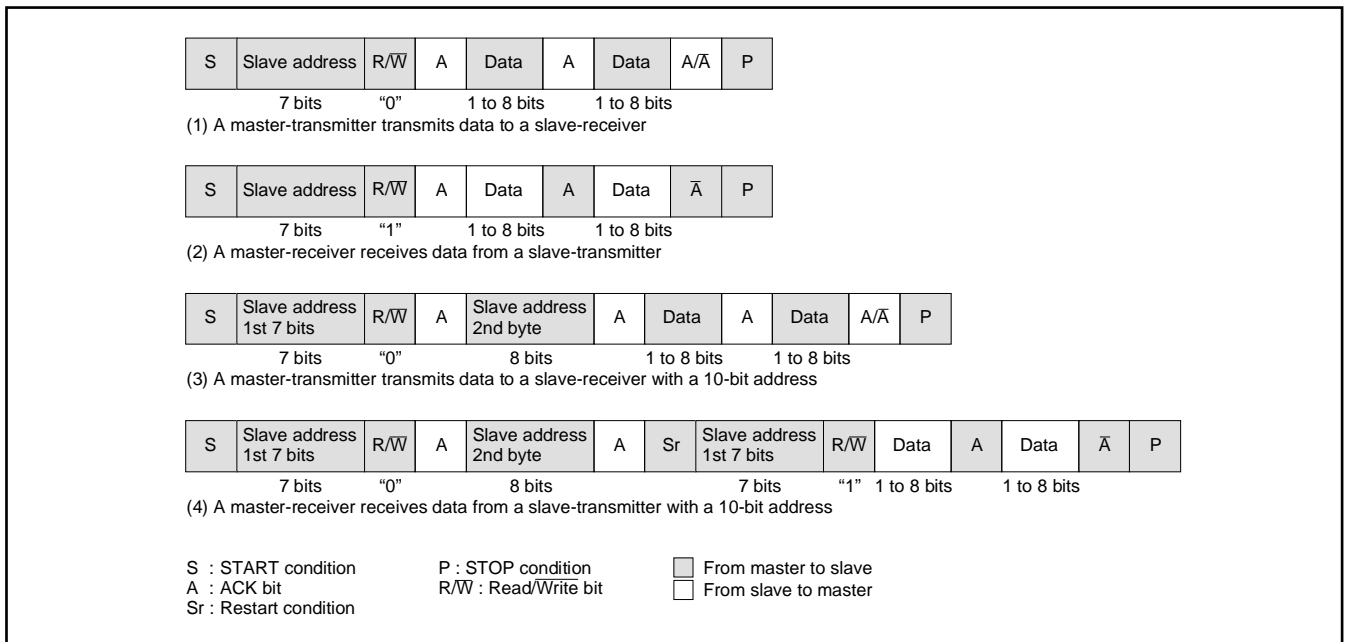

Fig. 8.6.12 Address Data Communication Format
(1) 7-bit addressing format
To meet the 7-bit addressing format, set the 10BIT SAD bit of the I²C control register (address 00DA16) to "0." The first 7-bit address data transmitted from the master is compared with the high-order 7-bit slave address stored in the I²C address register (address 00D816). At the time of this comparison, address comparison of the RBW bit of the I²C address register (address 00D816) is not made. For the data transmission format when the 7-bit addressing format is selected, refer to Figure 8.6.12, (1) and (2).
(2) 10-bit addressing format
When the first-byte address data matches the slave address, the AAS bit of the I²C status register (address 00D916) is set to "1." After the second-byte address data is stored into the I²C data shift register (address 00D716), make an address comparison between the second-byte data and the slave address by software. When the address data of the 2nd bytes matches the slave address, set the RBW bit of the I²C address register (address 00D816) to "1" by software. This processing can match the 7-bit slave address and R/W data, which are received after a RESTART condition is detected, with the value of the I²C address register (address 00D816). For the data transmission format when the 10-bit addressing format is selected, refer to Figure 8.6.12, (3) and (4).